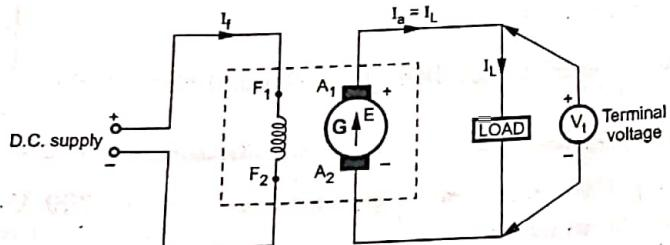

Fig. Q.37.1 Separately excited generator
- The Fig. Q.37.1 shows the circuit of separately excited generator